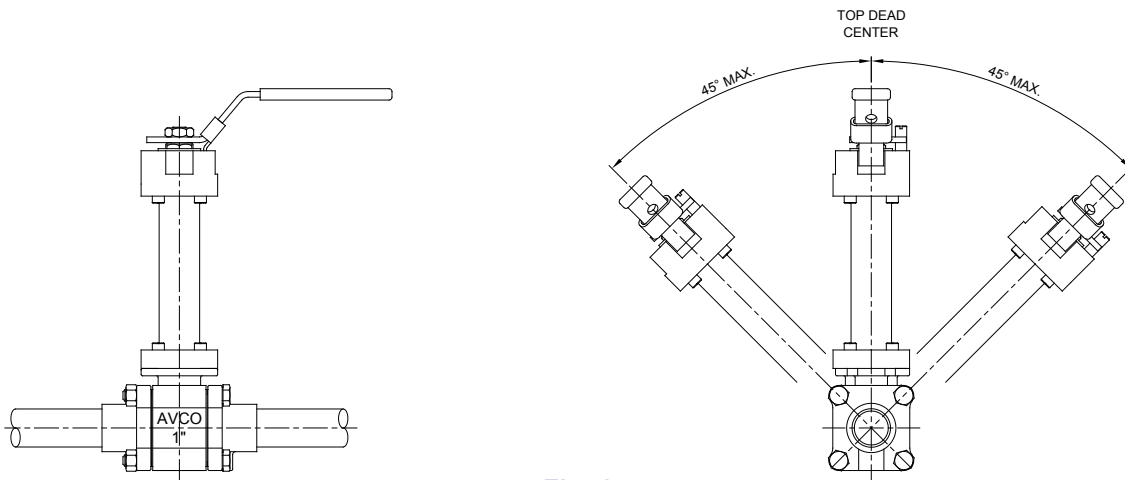

Fig. 1
- 6.7 AVCO advises, that where an actuator is used, the valve be installed as shown in fig. 1 and as described in paragraph 1.2 for optimal use and life span.